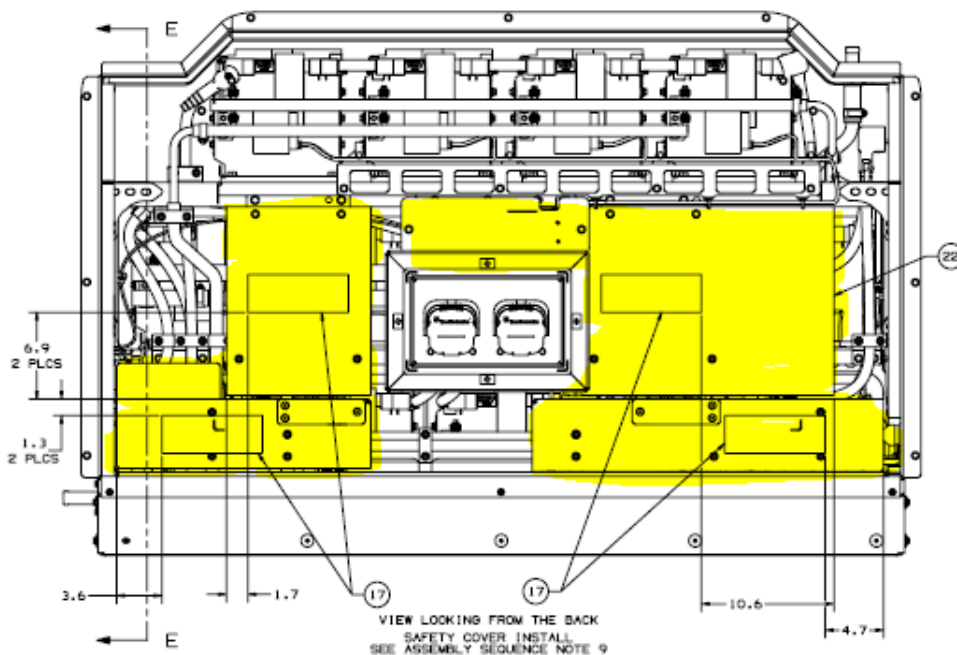

Figure 9: Rear ESS With Outer Covers Removed
- 3.1 Remove the remaining covers highlighted below in figure 9. Replace at the end of section 3 torquing cover mounting hardware to 5 ft-lbs WET with Loctite PN: 081034.